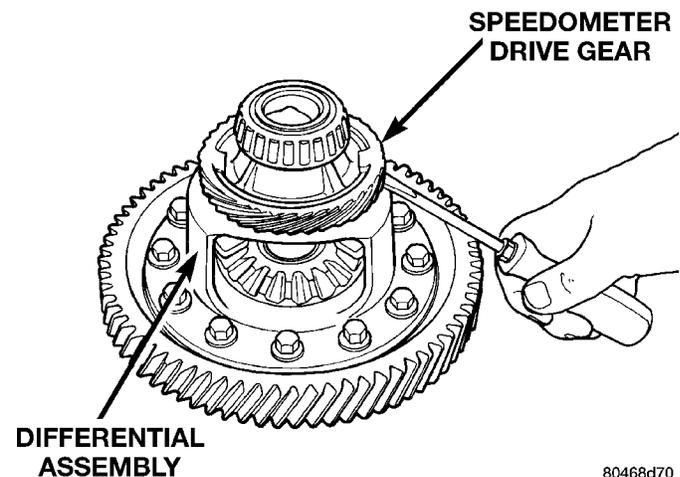

Fig. 103 Pry Off Speedometer Drive Gear
(1) Pry the plastic speedometer drive gear off of the differential case using a flat blade pry tool (Fig. 103) (Fig. 104).